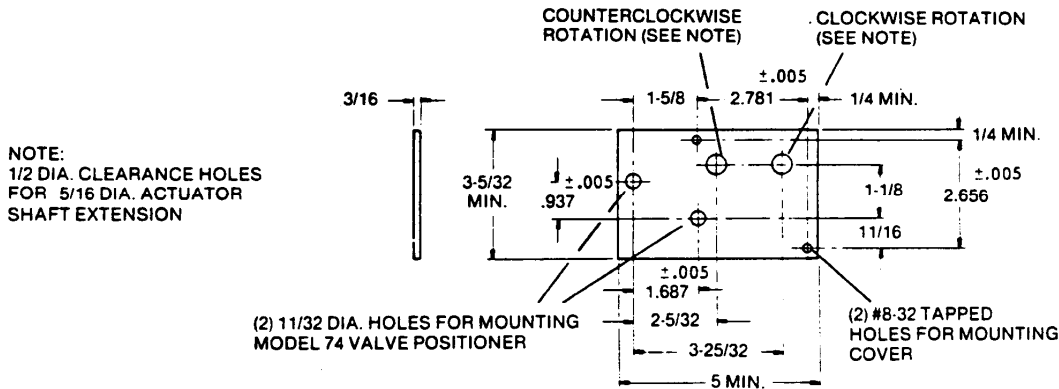

FIGURE 2-5 Mounting Plate
1. If a kit without a mounting plate was ordered, fabricate a plate. Refer to the dimensions in Figure 2-5. The valve actuator shaft must have a diameter of 0.3125" (± 0.001 ").